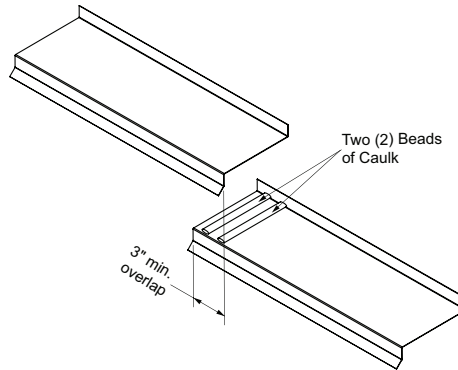

Fig. 1.2 Sill Flashing Assembly
- a. For wider openings, multiple pieces of flashing may be necessary in order to cover the entire width. When this occurs, caulk at all overlapping joints and firmly set. See Figure 1.2.